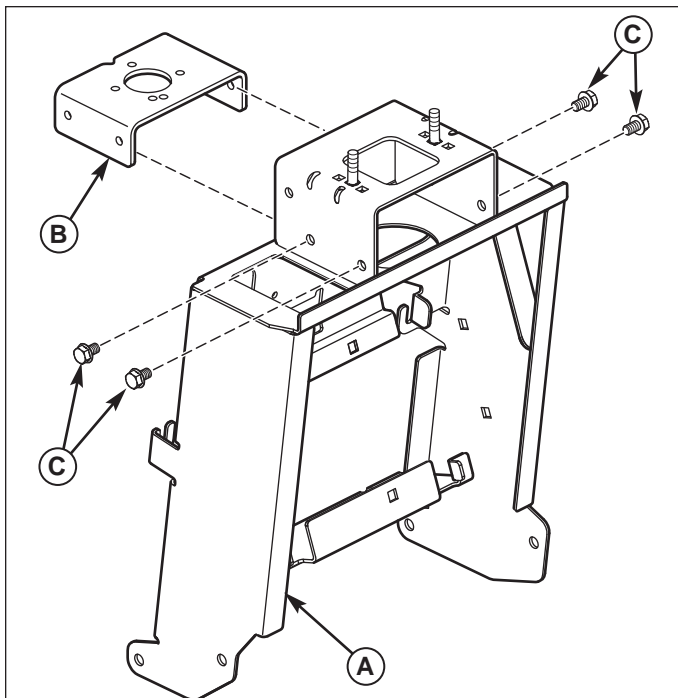

Figure 13 Steering Support Plate Installation
1. Install steering support plate (B, Figure 13) into new tower (A) using four 5/16-18 x 1/2 Taptite screws (C). Tighten screws to 7 ft. lbs (9.75 Nm).